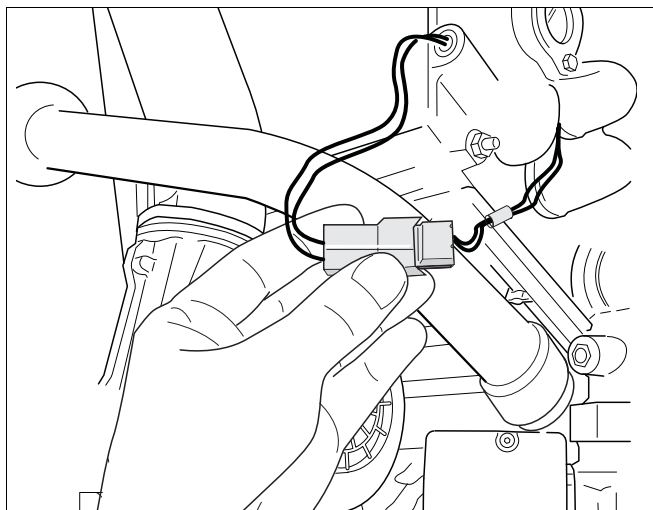

fig. 91 Loosening the plug and socket connections of the supply sensor
- Disconnect the plug and socket connections of the supply, return and safety sensors (see fig. 91, 92 and 93).